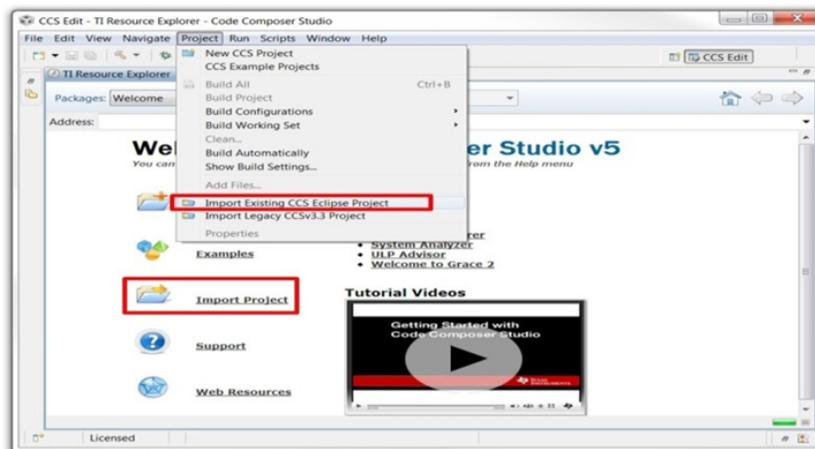

Figure 23. Importing Existing Projects
- Step 4. Import a project either from the welcome menu by selecting *Import Project* or go to the *Project* menu and select *Import Existing CCS Eclipse Project* (see Figure 23).